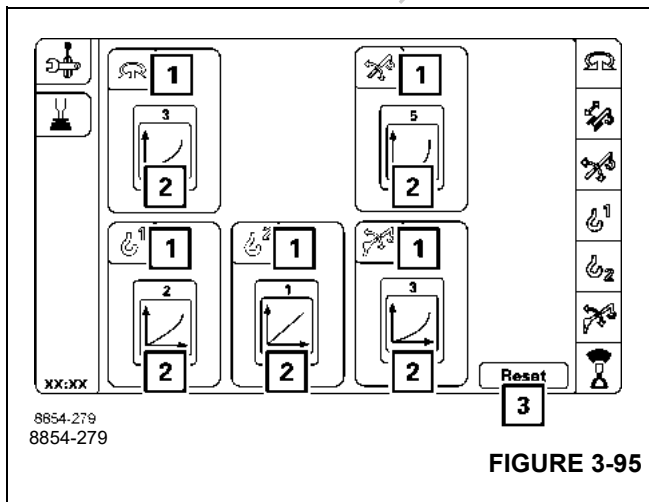

FIGURE 3-95
The symbols (2), (Figure 3-95) show the set characteristic curves of the crane functions (1).